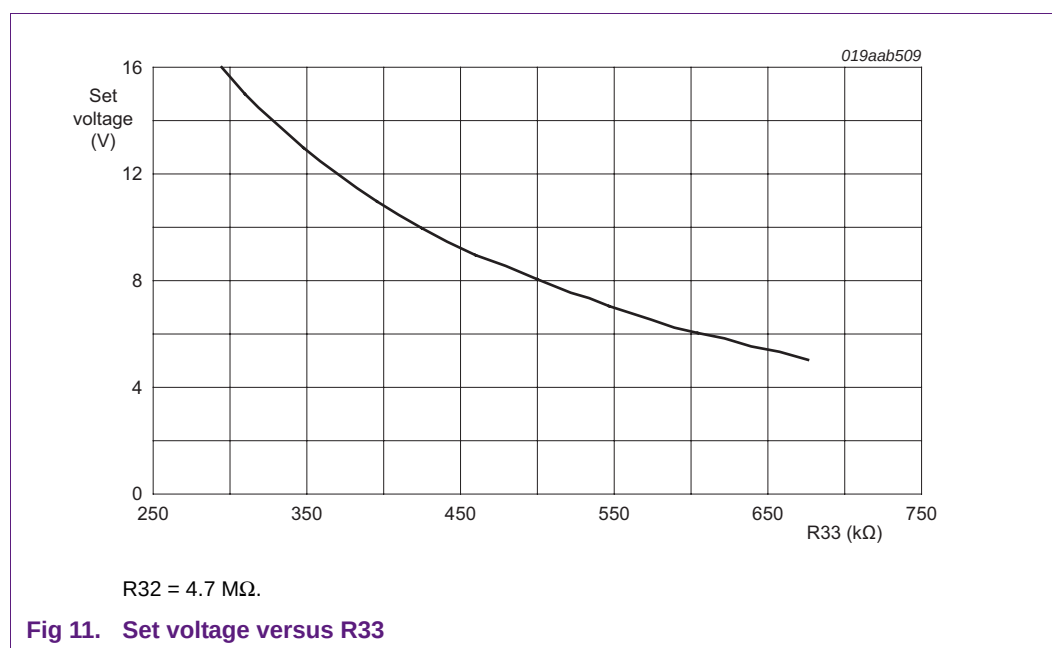

Fig 11. Set voltage versus R33
- Resistor $R33 = 1.22 / (((V_{\min} - 1.22) / R32) + 1e^{-6})$. Alternatively the value for R33 for can be found in Figure 11. The curve is valid for $R32 = 4.7 \text{ M}\Omega$
At low loads up to the Standby mode power threshold level, the minimum output voltage is lower than the set voltage. See Figure 10 for an output load of 20 mA. To guarantee a minimum output voltage is it necessary to adjust to a higher voltage (i.e. to the set voltage as shown in Figure 11). The adjustment procedure is as follows:
- Resistor $R33 = 1.22 / (((V_{\text{set}} - 1.22) / R32) + 1e^{-6})$. Alternatively, the value for R33 for can be found in Figure 11. The curve is valid for $R32 = 4.7 \text{ M}\Omega$